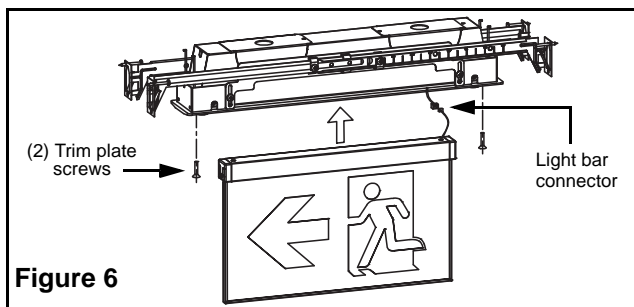

Figure 6
12. Close trimplate and use the M3*15 screws to ensure the trimplate will not detach from the housing assembly (see fig.6).